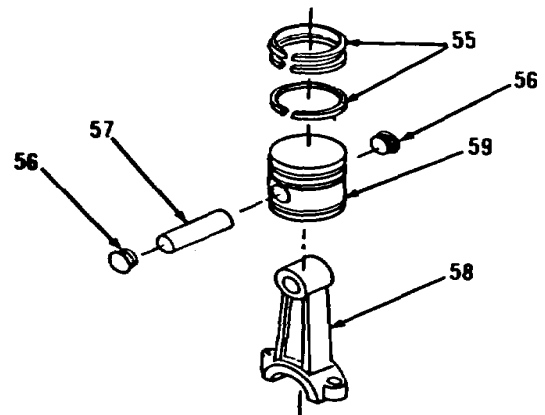

Figure 6-52.
27. Remove items 55 thru 59 as an assembly by pushing up through top of crankcase (60).
28. Remove and discard three rings (55) from piston (59, Figure 6-52).
29. Remove two plugs (56) from piston (59).
30. Remove pin (57), if necessary.
31. Remove rod (58) from piston (59).